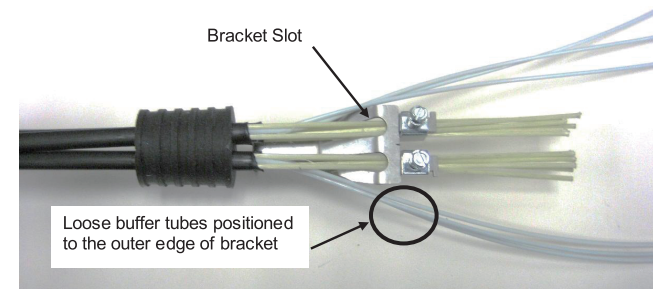

Figure 5
- 2.5 Place lugs loosely on strength member bracket, screws facing upward. (Figure 5)
- 2.6 Insert strength members thru bracket slot and into lugs. Do not tighten lug screws. Position the loose buffer tubes to the outside edge of bracket. (Figures 5 & 6)